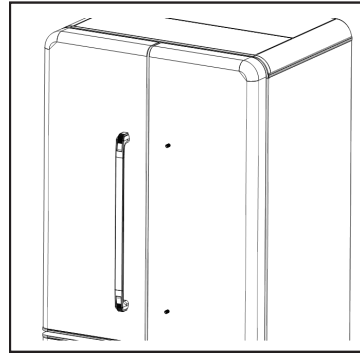
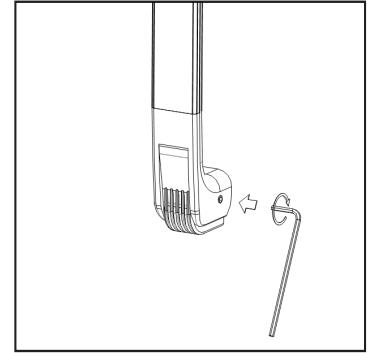

Fig. 3
Fig. 4
- 2) Place provided fridge handle on to the screw caps on fridge door (Fig. 3) making sure that the smaller holes on the handle face the inner edge of the door, and that the screw goes into the center hole at each end of the handle. Tighten the screws using the provided 2.5 mm Allen key (Fig. 4)